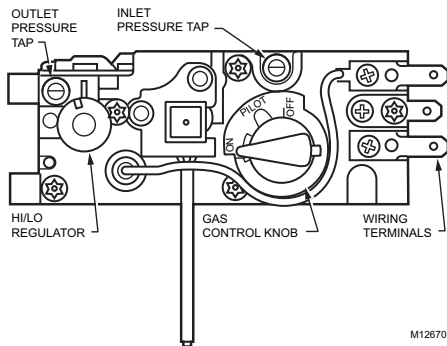

Fig. 4. Top view of gas valve with HI/LO regulator.
6. Connect pipe to valve inlet and outlet. Use wrench on either side of the pipe outlet. Refer to Fig. 4 through 6.